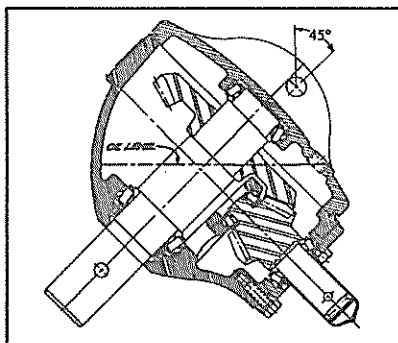

FIG. 5 - PIVOT GEARBOX 45° TO CHECK OIL LEVEL
STEP 6: Remove the fill plug at the top of the gearbox and fill the gearbox with two quarts of multigear lubricant EP SAE 140 *before operating the gearbox*. Tip the gearbox 45° (avoid pinchpoints as the gearbox pivots) and check the level at the plug (see Fig. 5). **DO NOT OVERFILL!** Replace the plug before operating the digger.